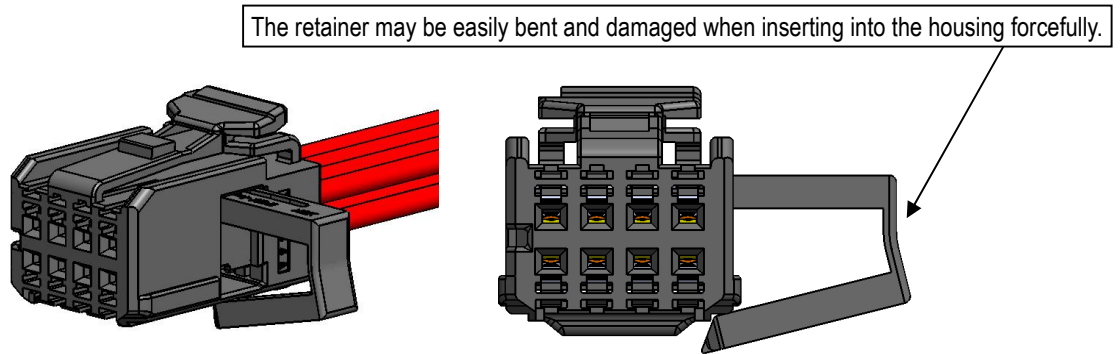

Fig.30 Insufficient retainer installation
- ④ Do not forcefully insert in any other position than those shown in Fig.30.
Inserting retainer in any other orientation may result in damage or deformation. (see Fig.30,31)